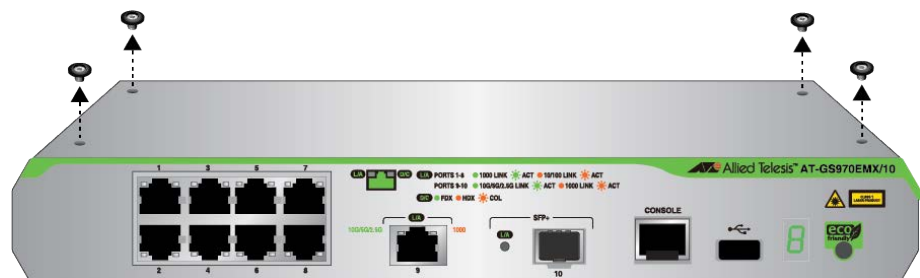

Figure 4. Removing Rubber Feet from the Switch
2. If rubber feet were previously attached to the switch, remove them as shown in Figure 4.
2. If the rubber feet were previously attached to the switch, remove them as shown in Figure 4 on page 13.